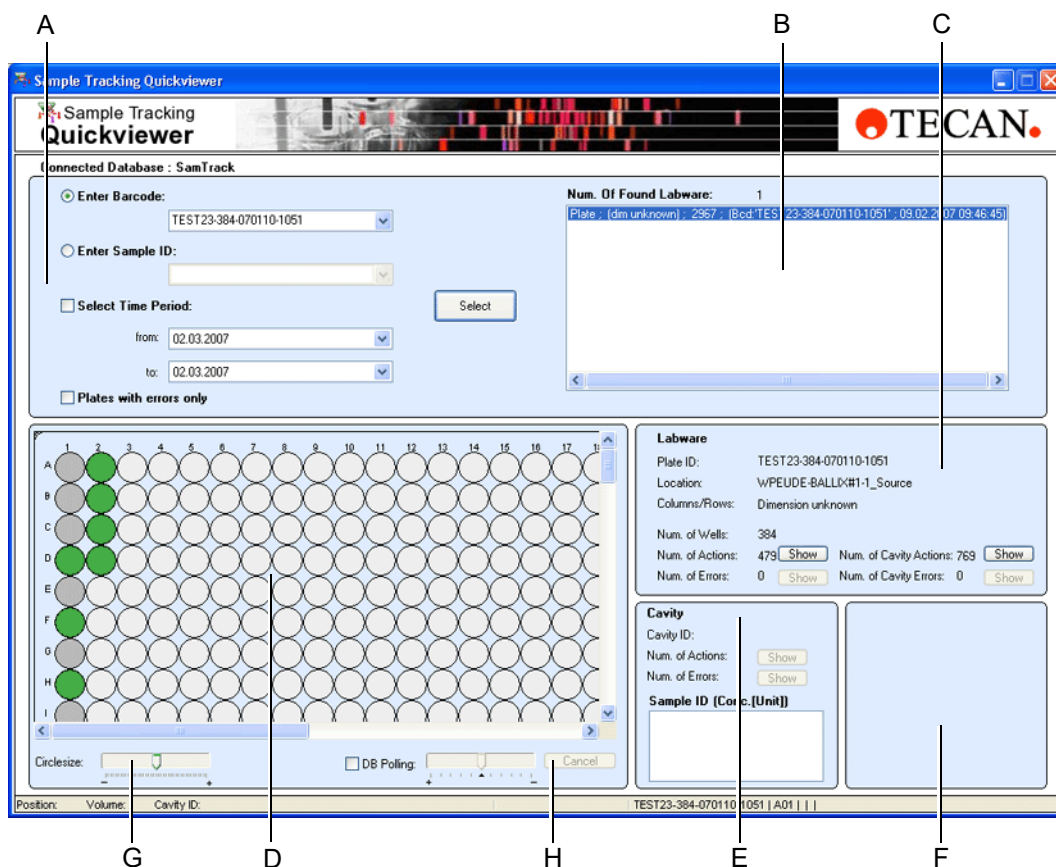

Fig. 8-6 Program overview
- 1 Load a container. See 8.4.4 "Loading Containers", Fig. 8-6.
- 2 Tick check box DB polling (A).